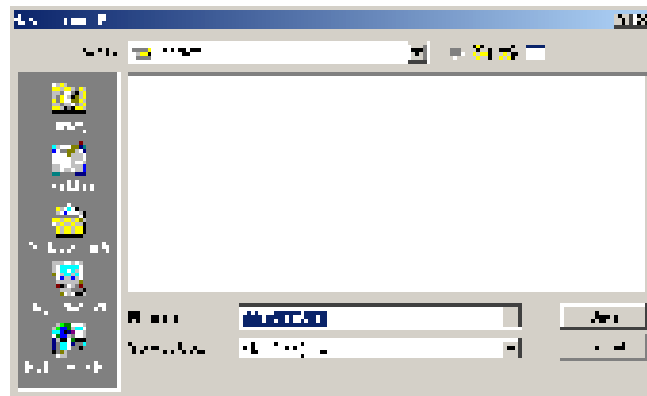

Figure 7.17 Save export File as form.
7. Click the ellipsis  to the right of the File field. The Save export File as form (Figure 7.17) appears.